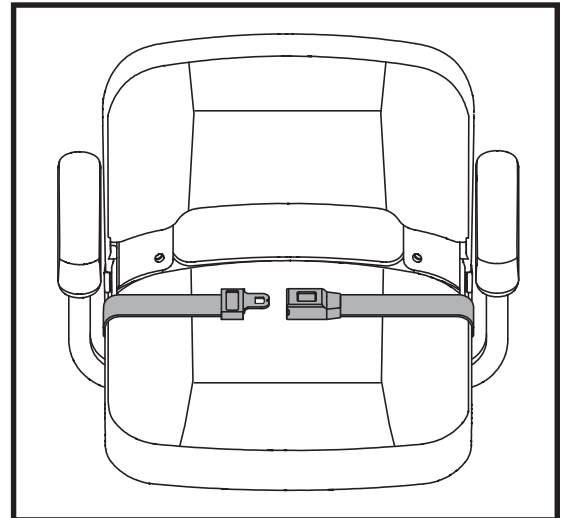

Figure 28. Positioning Belt - Metal Tab Style
Your scooter seat may be equipped with an auto-type positioning belt that can be adjusted for operator comfort. See figure 28 or 29. The positioning belt is designed to help support the operator so that he or she does not slide down or forward in the seat. The positioning belt is not designed for use as a restraining device.
1. Insert the metal tab on the right side of the belt into the plastic housing on the opposite strap until you hear a “click.” See figure 28.